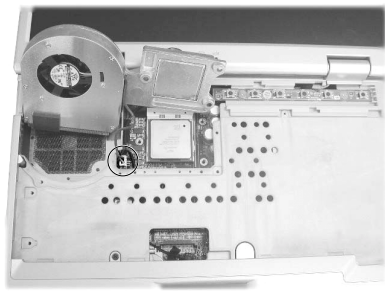

Figure 2-8 Remove the fan's power cord
4. Disconnect the fan's power cord from the system board, then lift up the heatsink. (Figure 2-8)